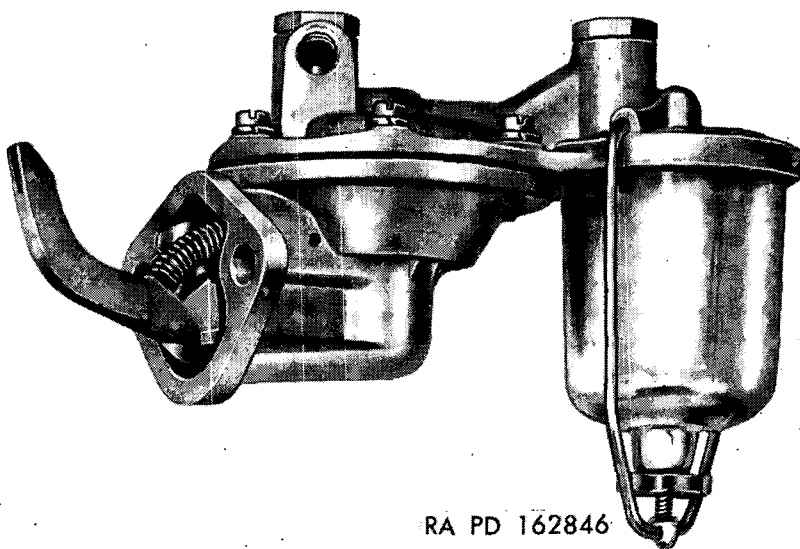
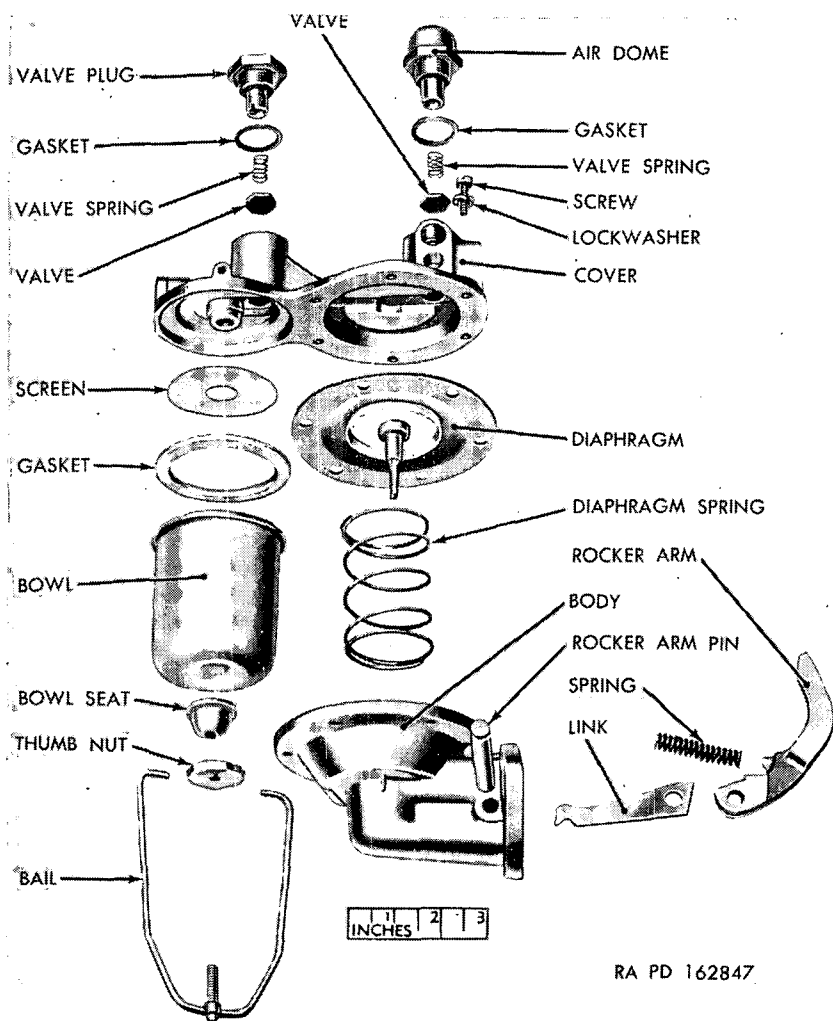

Figure 20. Fuel pump, series W.
Figure 21. Fuel pump—disassembled (typical series W construction).
- (1) Mark edges of top cover and body (fig. 21) of series W fuel pump (fig. 20) with a file. Mark at heat shield stud, if used. The parts may then be assembled in the same relative positions and heat shield stud properly located.
- (2) Remove cover screws and lock washers. Also remove heat shield stud, if used. Separate cover from body by jarring cover loose with a light plastic hammer.
*a. Assemble Body (fig. 21).*
- (1) Assemble link and rocker arm. Insert rocker arm. Insert rocker arm bushing, if used. Place rocker arm and link in body with link hook down. Align rocker arm pin hole with hole in body and drive in rocker arm pin. Install washer on small end of rocker arm pin and spread end of pin. Install rocker arm spring.
- (2) Soak new diaphragm in clean kerosene. Fuel oil may be used, but do not use shellac or sealing compound. If used, install oil seal spring, upper oil seal retainer, two oil seal washers, and lower retainer on the diaphragm pull rod. Turn lower oil seal retainer 90 degrees to lock in place. Place diaphragm spring over pull rod well and install diaphragm assembly. Hold pump body upside down and press diaphragm against spring. At the same time, tilt the diaphragm so pull rod angles away from link hook. Bring diaphragm back to level position so that the link engages the pull rod.